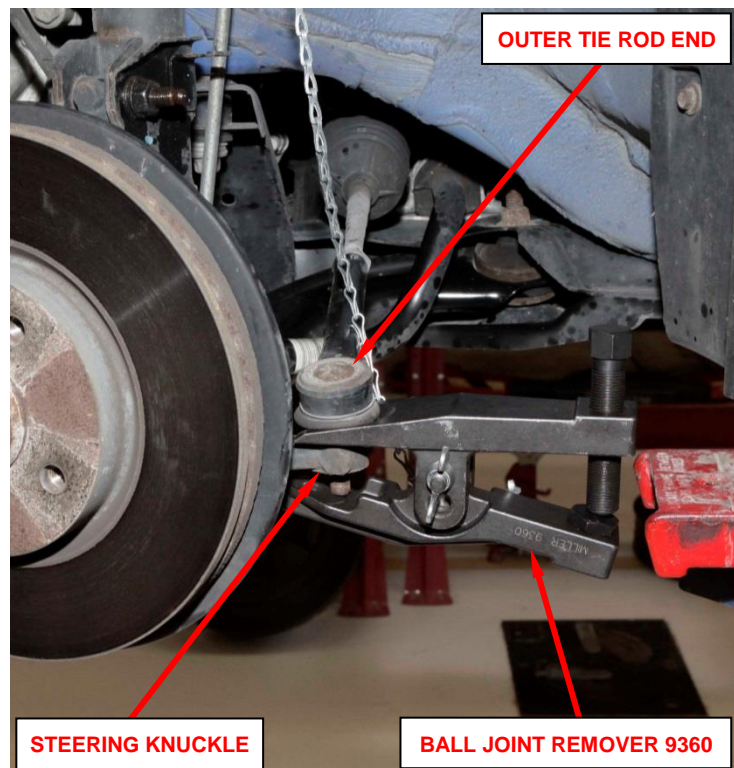

Figure 37 – Disconnect Tie Rod From Knuckle
35. Using Ball Joint Remover 9360, separate the outer tie rod end from the steering knuckle (Figure 37).